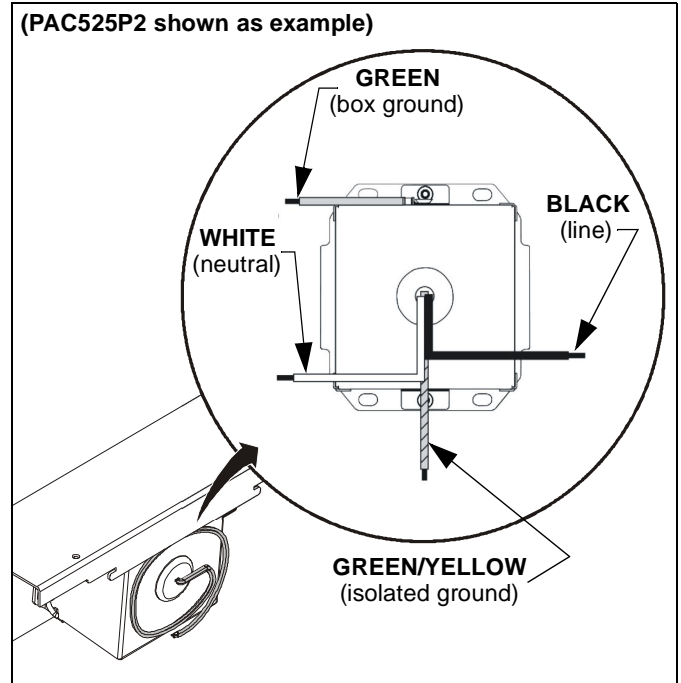

Figure 2
2. Wire the power kit assembly (A) as required. Refer to Table 1 and Table 2 for input and output specifications. (See Figure 2)